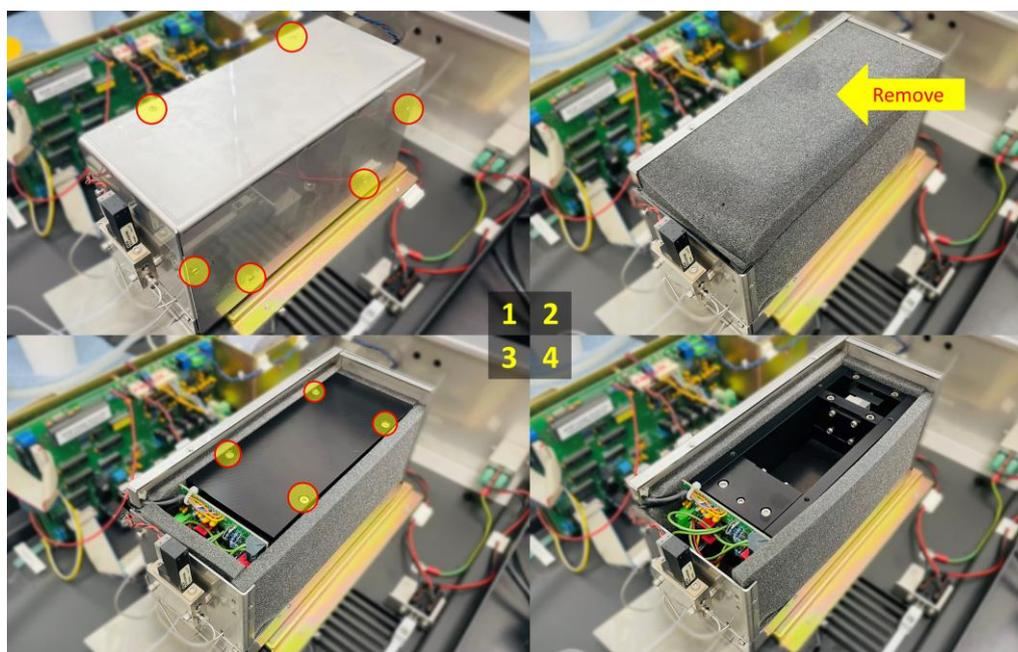

Figure 2. How to access the inside of RID detector
5. Loosen the screws, open the outer housing of the optical bench, and remove the heat insulation on top of the optical bench in the order shown in Figure 2 so that you can see the inside of RID.